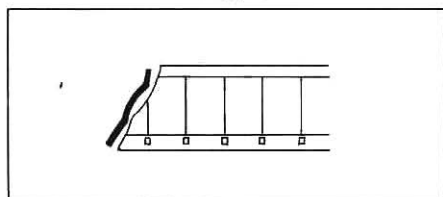

Fig. 3
- when the film end is jagged as shown in Fig. 3.